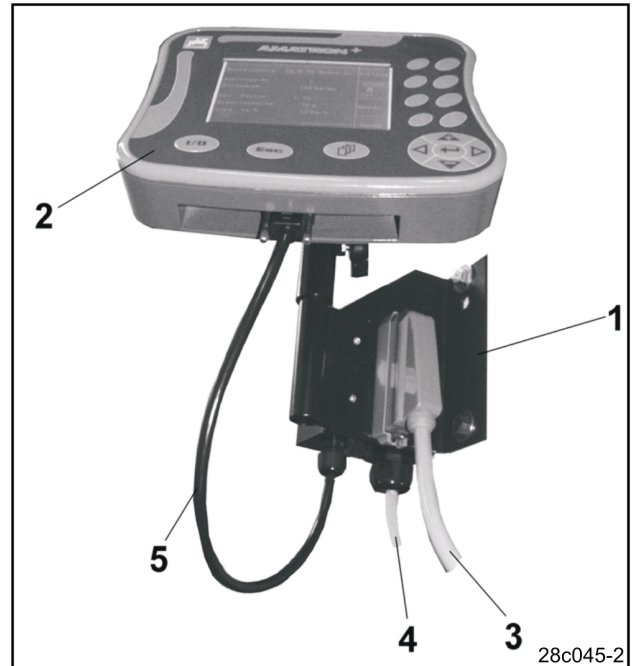
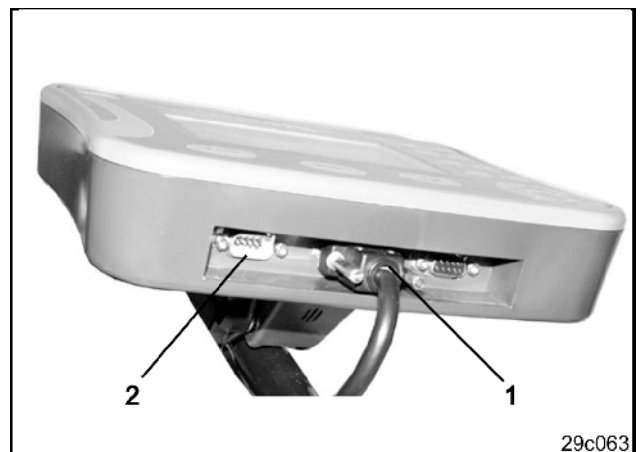

Fig. 3
Fig. 4
The terminal (Fig. 3/2) is designed for use in conjunction with all **AMAZONE** machines via the **AMATRON⁺** job computer.
To enable a quick exchange of the terminal from tractor to tractor then connect the terminal (Fig. 3/2) to the console (Fig. 3/1) as follows:
- Connect the battery cable (Fig. 3/4) from the console (Fig. 3/1) with the tractor battery. For advice regarding the power supply, please refer to para. 3.3
- Connect the intermediate cable (Fig. 3/5) from the terminal (Fig. 3/2) to the console (Fig. 3/1).
- Connect the seed drill to the base tractor equipment via the machine plug (Fig. 3/3).
- Insert the plug of the intermediate cable (Fig. 3/5) into the central 9-pin Sub-D socket (Fig. 4/1).
- The serial interface socket (Fig. 4/2) allows an additional connection to a GPS-terminal.